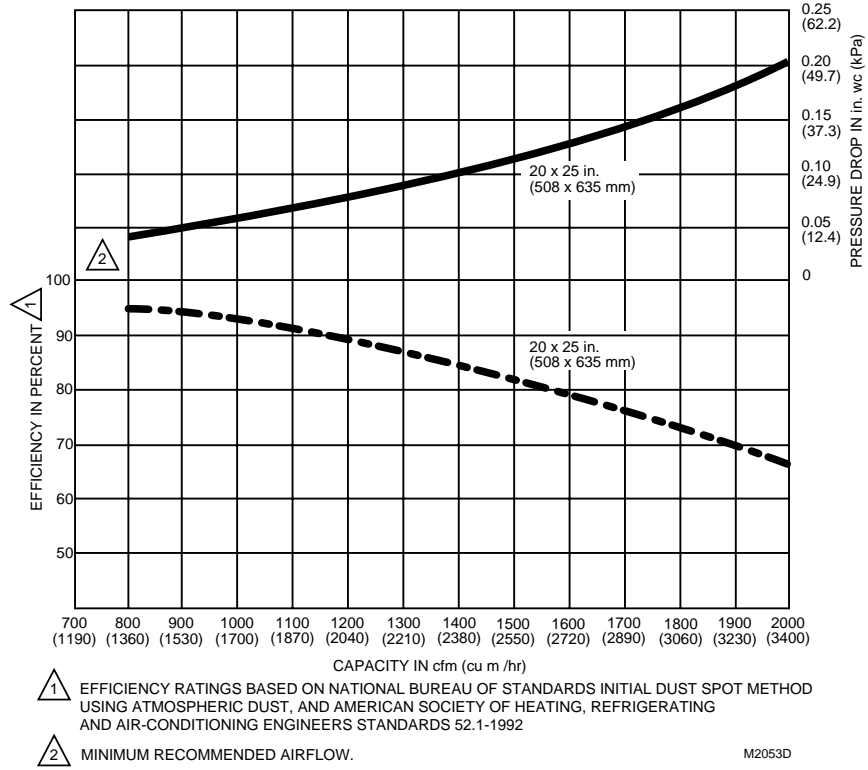

Fig. 1. Air cleaner efficiency and pressure drop at various airflow rates.
**Capacity, Efficiency, Pressure Drop:** See Fig. 1.